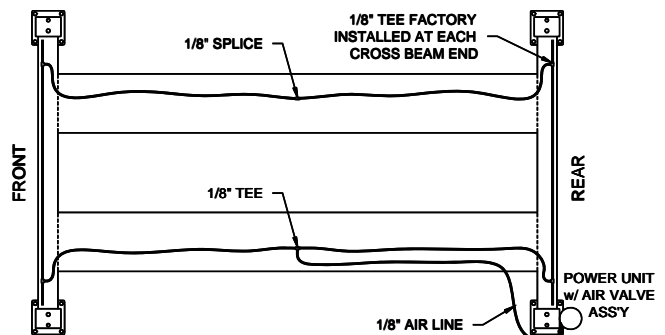

Fig 12 – Lock Release Air Line Routing
- 32) Install 1/8" air line from air valve assembly thru opening in runway to Tee. **Fig 12**